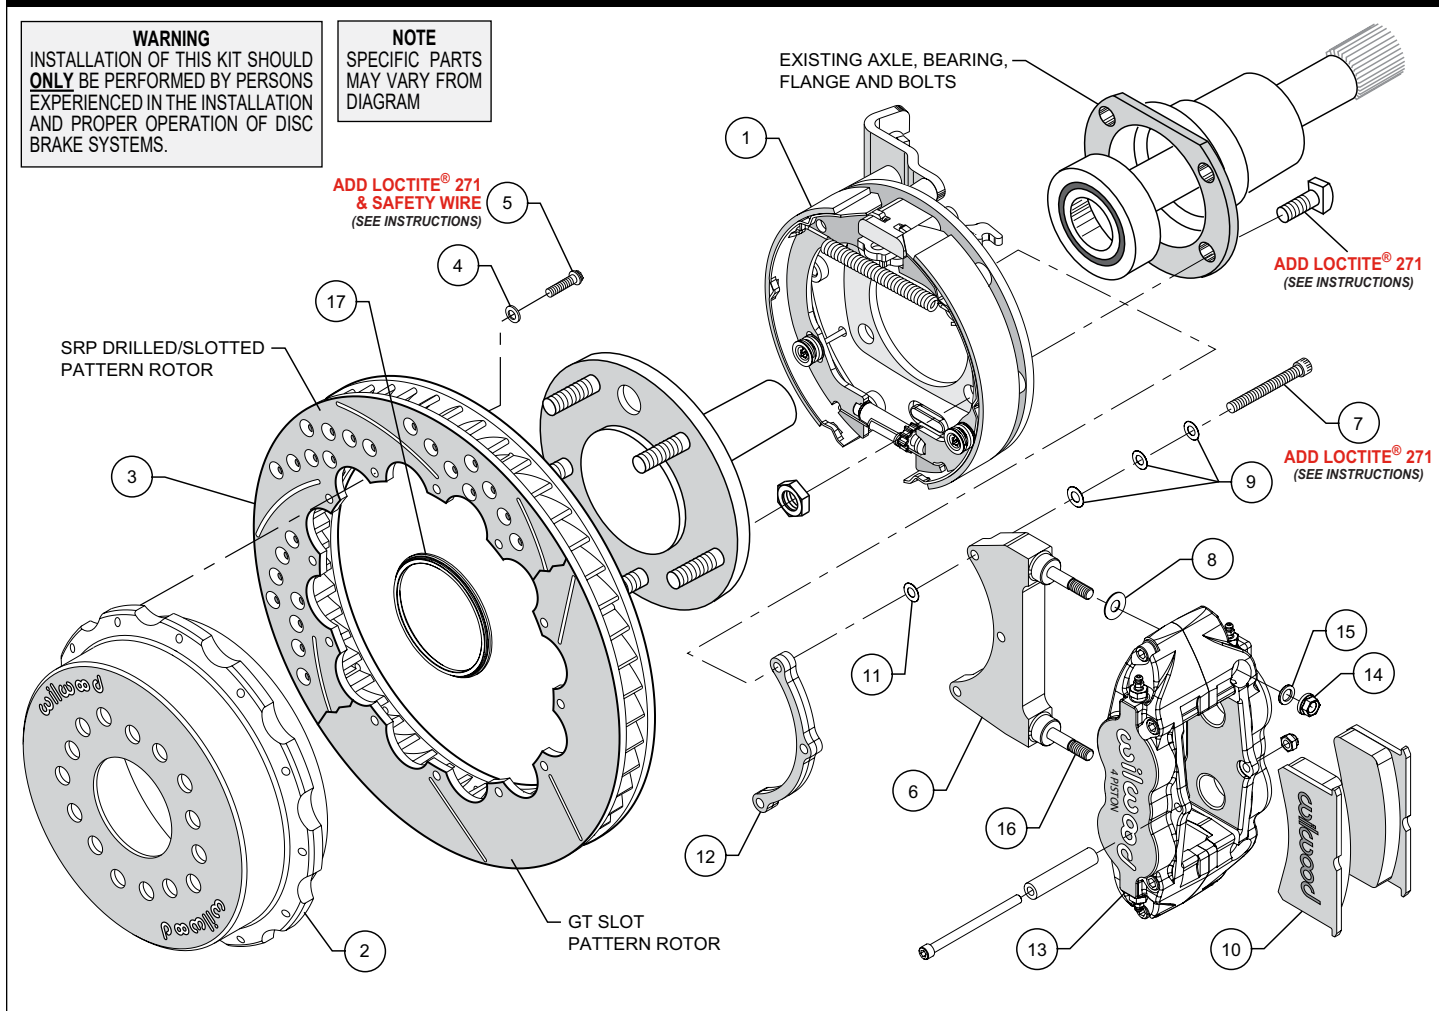

Figure 1. Typical Installation Configuration
NOTE: Numbers in parenthesis refer to the parts list and Figure 1 on the preceding pages.
- Slide the rotor registration adapter (17) onto the axle register on the axle flange with the smaller O.D. facing toward the rotor/hat (2). Align the correct hole pattern in the hat with the stud pattern on the axle flange. **NOTE:** *Some OEM and aftermarket axles come with stud sizes larger than 0.50" diameter.* Verify stud size and have a qualified machine shop drill the hats to the correct size, if necessary. Slide the hat/rotor assembly (2 and 3) over the wheel studs covering the bracket kit assembly (1) and against the axle flange face. Check to be sure the hat seats squarely against the hub. Install a couple of lug nuts (finger tighten) to keep the rotor/hat assembly in place while continuing with the installation.
- **NOTE:** *Please reference the caution statement at the beginning of the assembly instructions.* The caliper mounting bracket assembly (6) should be installed first with clean, dry threads on the mounting bolts (7). Install the bracket from the rear side of the bracket kit assembly (1) by sliding bolt (7) through three flat washers (9), bracket (6), shim washer (11) and finally through the spacer (12), see Figure 1. **NOTE:** *End of bolt should not exceed inside face of insert. The bracket must tighten squarely against the back side of the bracket kit assembly (1).* Inspect for interference from casting irregularities, machining ridges, burrs, etc. Use one thin shim (11) between the bracket (6) and spacer (12) during initial trial fitting.
- Install one shim (8) over each pre-installed stud (16) on the radial mount bracket (6). Slide the caliper (13) in place over the studs and rotor, then install the washer (15) and lock nut (14) to hold the caliper in place. The caliper bleed screws should be pointing up. Snug the lock nuts (14) and check that the rotor (3) is centered in the caliper (13). Add or subtract .015" shims (11) as necessary between the caliper mounting bracket (6) and the spacer (12) to center the caliper (13).
- Remove the caliper center bridge pad retainer bolt, nut, and tube from the caliper. Slide the brake pads (10) into place. They should install easily without interference. Check that the outside radius of the brake pad is aligned with the outside diameter radius of the rotor face. Add or subtract shims (8) between the caliper (13) and mount bracket (6) to gain the proper alignment. Reinstall the center bridge pad retainer tube, bolt, and locknut. The locknut should be snug without play in the bolt or tube. Be cautious not to over tighten.
- Adjust the parking brake shoes outward (using a drum shoe adjustment tool available at your local auto parts store) while spinning the hat (2) until a slight drag is felt against the hat/drum. Remove the lug nuts that were holding the hat/rotor in place. Install the wheel and lug nuts. Check to see that the wheel rotates freely without interference.
- Once all clearances have been checked, remove the wheel, caliper, hat/rotor from the bracket kit assembly (1). Secure the caliper mounting bracket (6) to the bracket kit assembly (1) using red *Loctite*® 271. Torque bolts (7) to 180 **in-lb**. Reinstall the hat/rotor assembly and again use lug nuts to hold it in place. Reinstall the caliper and torque the caliper nuts (14) to 30 ft-lb.
- **NOTE:** *Clevis and cable kits which attach to the parking brake assembly are not included in the Wilwood parking brake kit.* Wilwood offers a generic style parking brake cable kit, P/N 330-9371 for this application which can be ordered separately from your local Wilwood dealer or by calling Wilwood customer service at (805) 388-1188.